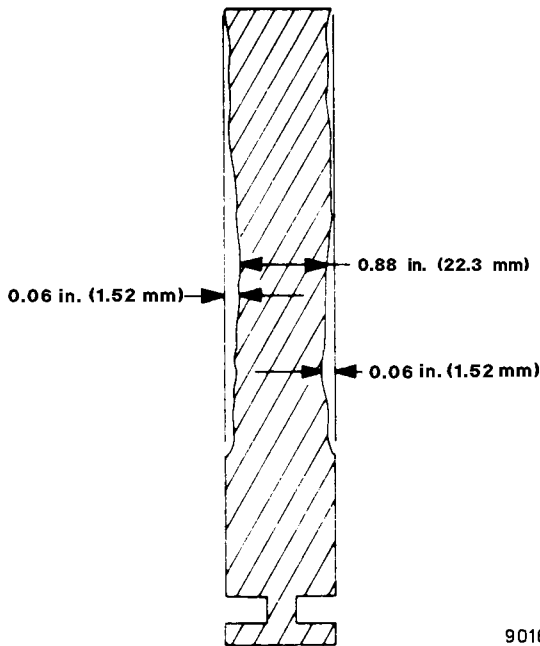

FIGURE 6-18. REAR BRAKE DISC WEAR LIMITS
4. Inspect the brake discs for wear (Figure 6-18). Place a straight edge across the face of the disc and measure from the straight edge to the worn face. The disc must be replaced when this measurement is 1.52 mm (0.06 in.) or more on either side of the disc, or when the disc thickness is 22.3 mm (0.88 in.) on the worn face (see Note). It may be difficult to use a straight edge on the inner surface of the disc, so a visual comparison may be used with that of the outer surface. Normally, wear will be the same on both sides.